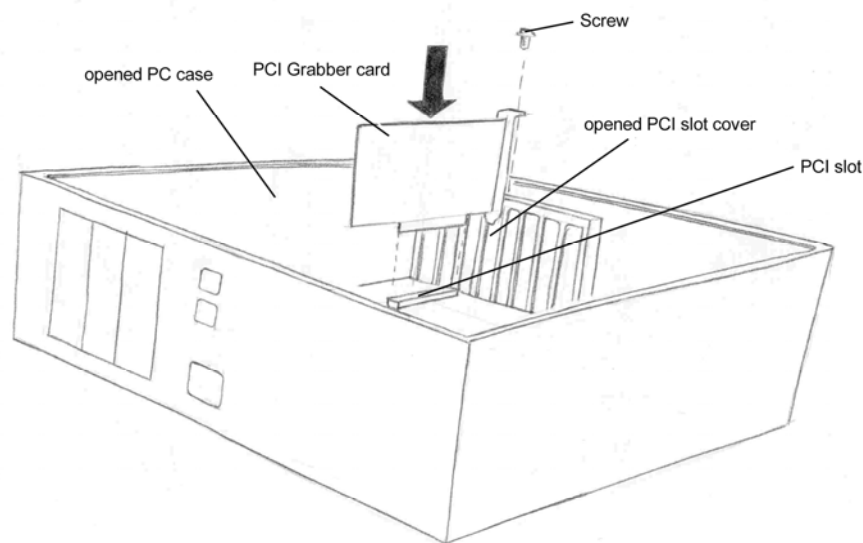

Figure 6: Inserting the Card into the PCI Slot
- As shown in *Figure 6*, insert the pciGrabber-4plus into the slot with the connectors facing outwards. The card should be inserted securely.
For stability reasons and to ensure a secure ground connection to the computer's housing, screw the card to the housing (*see Figure 6*).